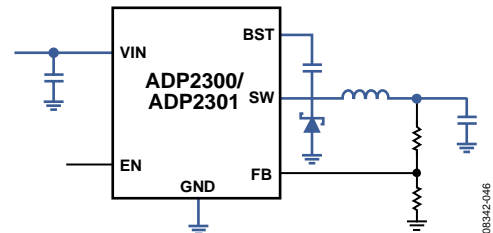

Figure 49. Typical Application Circuit with High Current Traces Shown in Blue
- Ensure that the high current loop traces are as short and wide as possible. The high current path is shown in Figure 49.